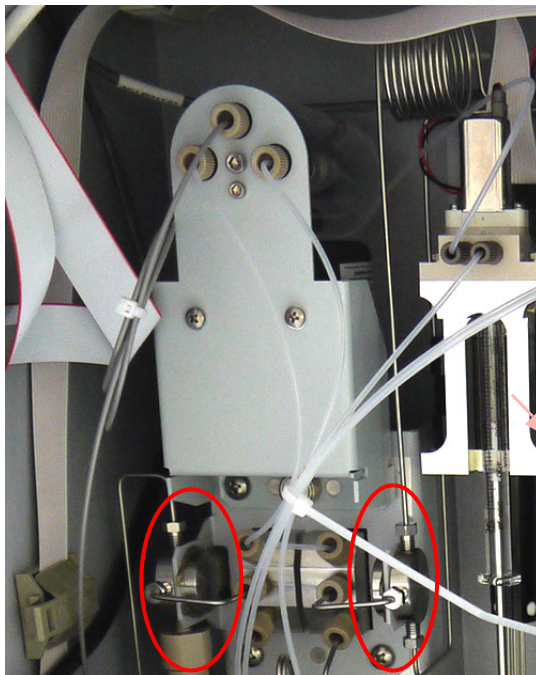

Figure 87: Stream Splitters and Valves
- Check to make sure there are no leaks in the DI system, especially at valves and the stream splitters (Figure 87).